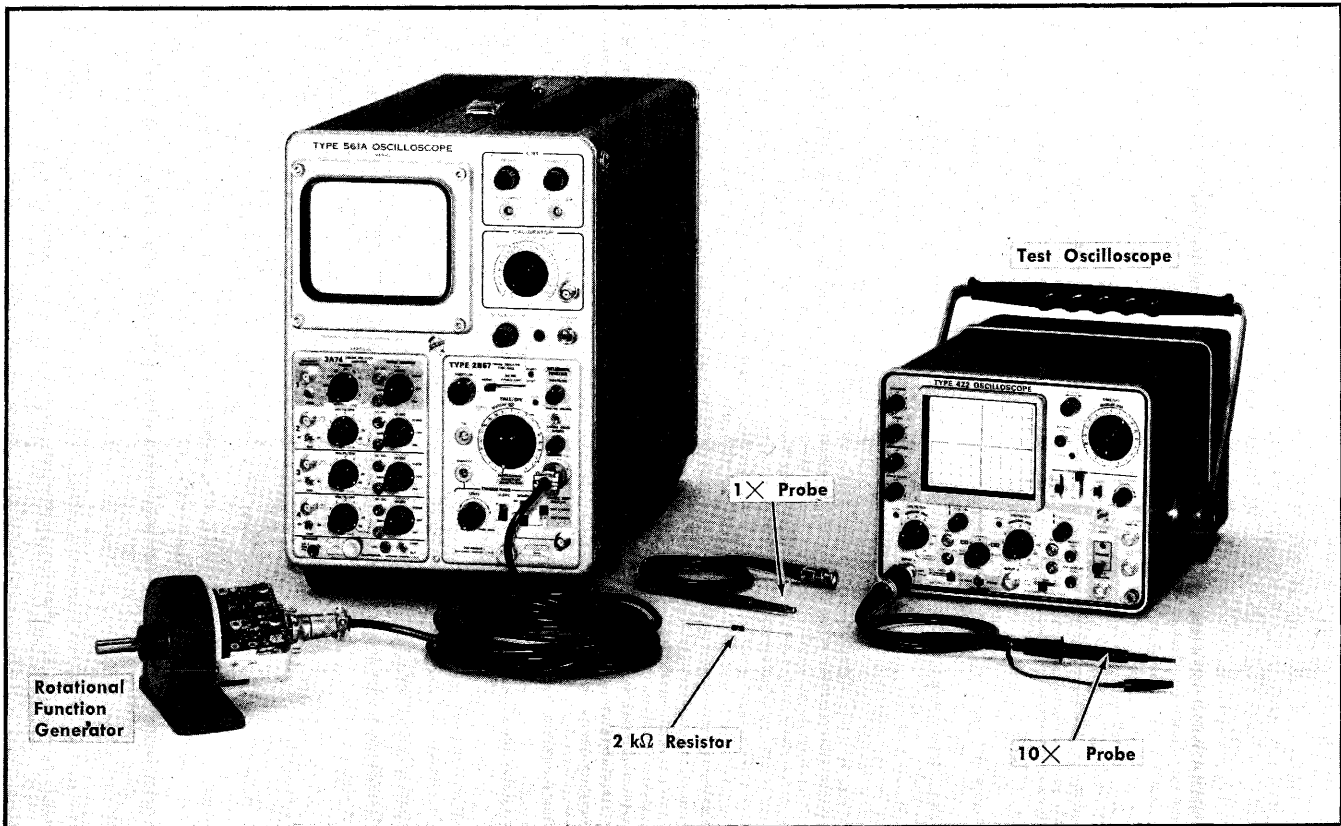

Fig. 5-31. Equipment arrangement for calibrating the Rotational Function Generator.
a. Install the 3A74 (Mod 730A) and the 2B67 (Mod 730A) into the 561- or 564-Series Oscilloscope and set the equipment controls according to the setup which accompanies Fig. 5-31.
(1) Remove the cover from the Function Generator after removing the acorn nut and the hex nut from the rear. Remove the spacer washer which is installed on the machine screw.